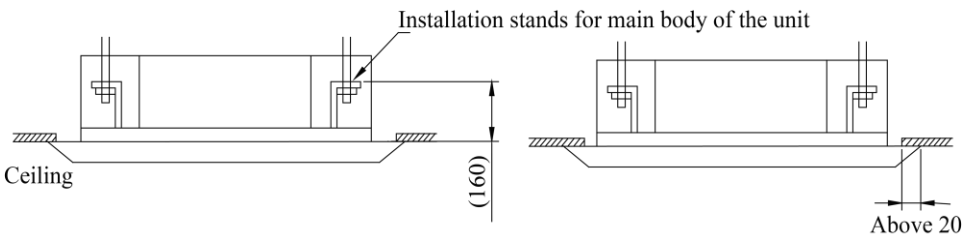

Fig. 2.3
(3) Adjust the unit to the suitable install place. (Refer to the Fig. 2.3)
(4) Check if the unit is horizontal.